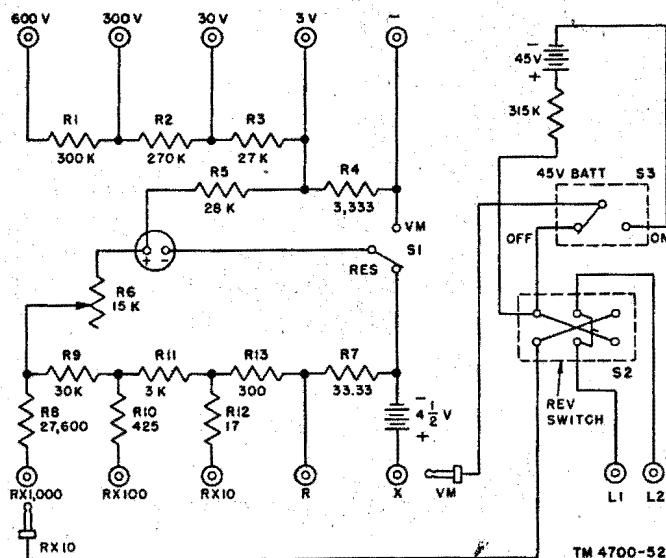

Figure 54. Multimeter TS-26/TSM, schematic diagram.
51. Multimeter TS-26/TSM, TM 11-2017 (fig. 54).
- (2) If the readings of Multimeter TS-26/TSM disagree with those of the standard meter by more than plus or minus 2 percent, check the value of resistors R1 through R5 (fig. 54). The values of these resistors should be within plus or minus 1 percent of the specified values.
- (1) Place the VM—RES. switch in the RES. position. Plug the short leads, VM- and RX10, into pin jacks X and R, respectively.
- (2) Throw the 45 V BATT switch to OFF position, and plug the long test leads into pin jacks L1 and L2.
- (3) Connect the test clips together, and adjust the battery adjustment knob to obtain a zero reading on the resistance scale of the meter (full-scale deflection). If the meter needle falls short of zero at the maximum clockwise setting of the battery adjustment knob, it will be necessary to replace the 4½-volt battery. The meter reading should be the same with the REV. SW switch in either position.
- (4) Remove the lead from pin jack R; plug it into pin jacks RX10, RX100, and RX1000, successively; and make a zero adjustment for each range. The meter resistors are connected in a network; failure of any one resistor will render the meter inoperative at all higher ranges.
- (5) If it is impossible to zero the meter for all scales, check the resistor associated with the lowest scale that will not zero.
- (6) Check the accuracy of the ohmmeter ranges by connecting the clips of the long leads to Decade Resistor TS-679/U. Use a value of resistance equal to one-half of the full-scale reading of the meter.
- (7) If inaccuracy of more than plus or minus 2 percent exists, check the value of resistors R6 through R13 (fig. 54). The values of these resistors should agree with the specified values within plus or minus 1 percent.